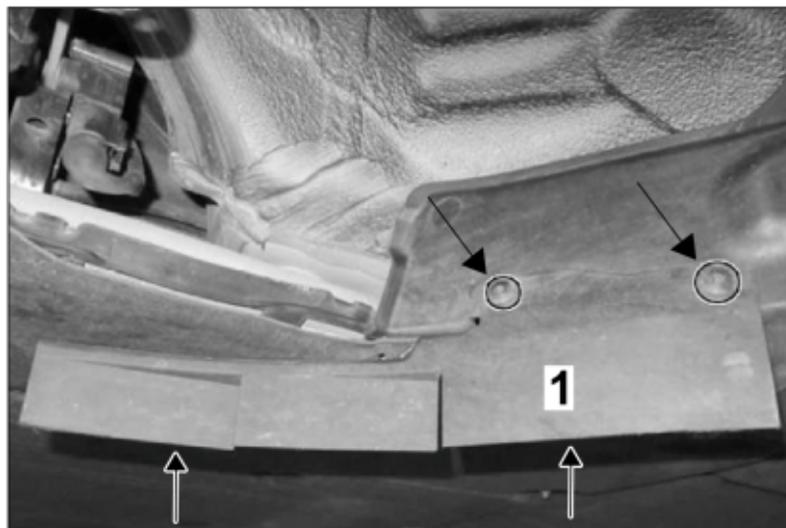

Figure 32
- 6.1.1 Remove tapping screws (4 pcs. ⇒ *Figure 32 -Arrows-*) on air control elements (transition from underbody to wheelhouse ⇒ *Figure 32 -1-*) on the left/right side.
- 6.1.2 Remove left/right air control elements (transition from underbody to wheelhouse ⇒ *Figure 32 -1-*); these are NO longer needed.